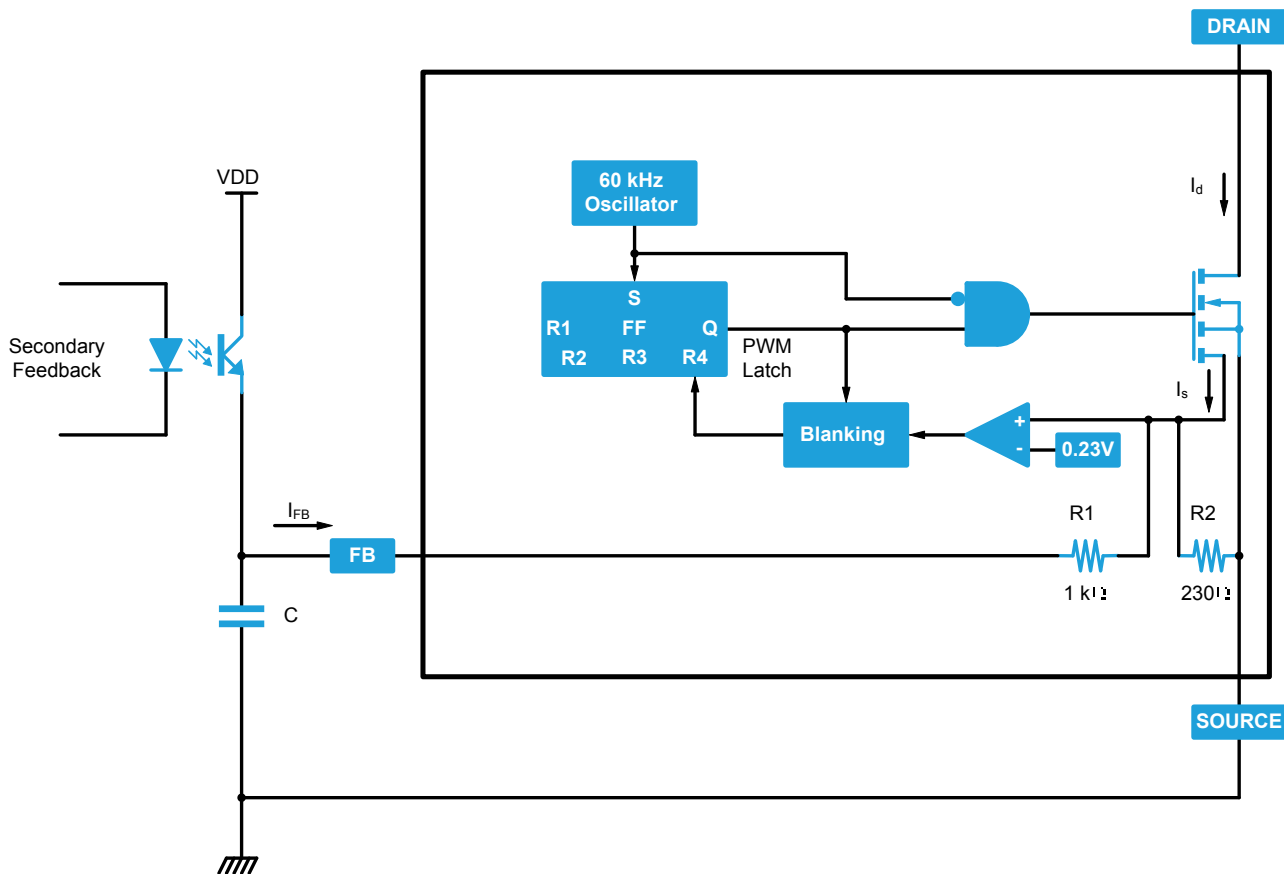

Figure 10. Current Control Circuitry Block Diagram
The feedback (FB) pin controls the operation of the device. Unlike conventional PWM control circuits that use a voltage input, the TF12A FB pin is sensitive to current. Figure 10 shows the internal current mode structure of the device.
In a real application, the FB pin is driven with an optocoupler which acts as a pull up. This is shown in Figure 10. Therefore, it is not possible to short this pin to ground and the drain current value is not achievable. Nevertheless, the capacitor C is averaging the voltage on the FB pin, and when the optocoupler is off (start up or short circuit), it can be assumed that the corresponding voltage is very close to 0V.